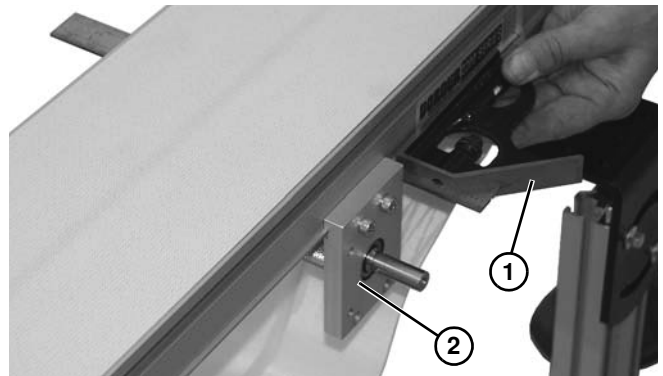

Figure 95
10. Be certain to use a square (**Figure 95, item 1**) across mounting blocks (**Figure 95, item 2**), so blocks are aligned to one another, before tightening hardware.